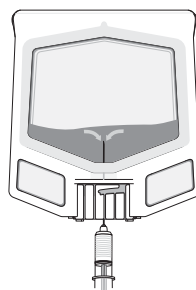

Figure 10 Remove the sample.
- With the needle in place, turn the unit so the needle is at the bottom. Allow sample to collect near the port and withdraw sample into the syringe (Figure 10).